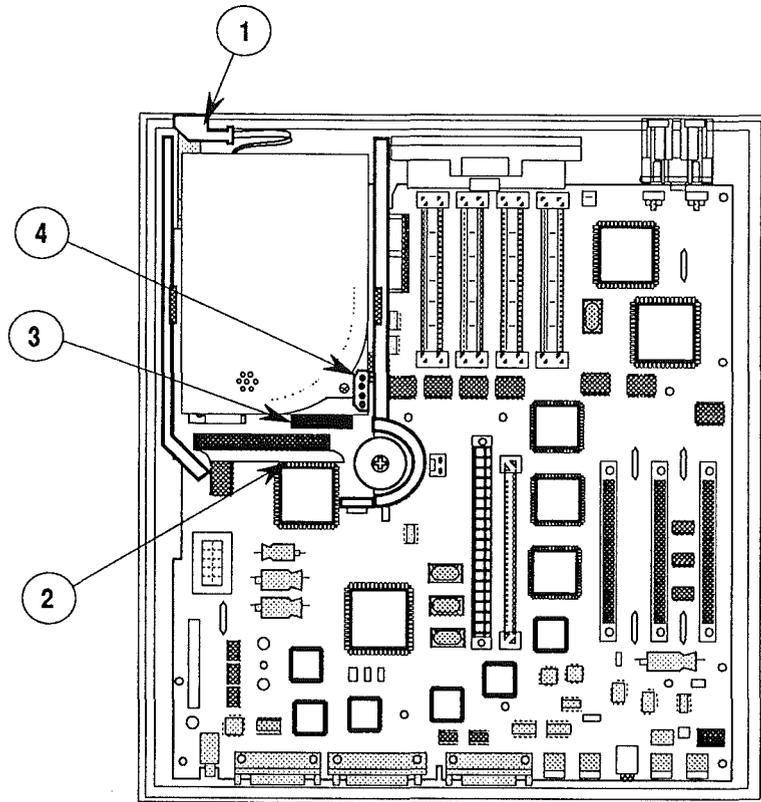

FIGURE 13
4. Remove the diode from the lens (Figure 13, #1).
5. Pull up on the paper connector tab (Figure 13, #2) on the 50-pin connector (that secures the signal cable to the main logic board) and disconnect the cable connector.
6. Disconnect the 20-pin connector (Figure 13, #3) from the logic board.
7. Disconnect the power cable connector from the hard disk drive (Figure 13, #4).